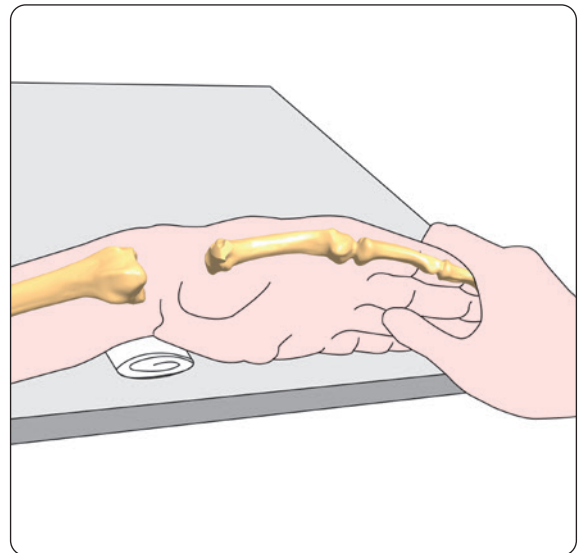

Fig. 1
- Place the wrist in moderate (manual) traction, flexion and radial abduction (i.e. Ulnar deviation) with a folded towel on the Ulnar side to support it (**Fig. 1**)